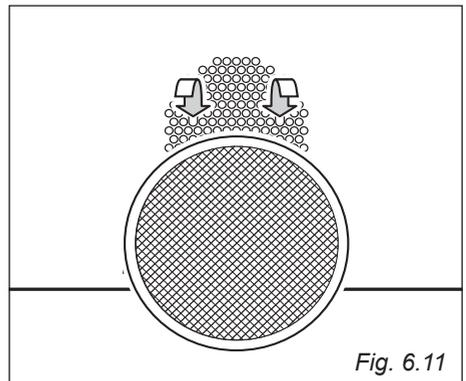

Fig. 6.11
- A special screen can be fitted at the back of the oven to catch grease particles, mainly when meat is being roasted. Slide in the grease filter on the back of the oven as in fig. 6.11.